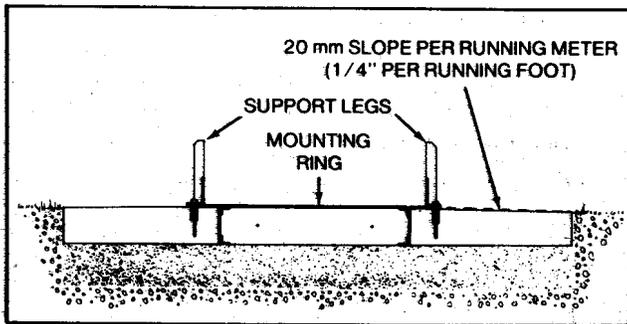

Fig. 18f
- (6) Place the concrete reinforcing rods or wire mesh in the slab area.
- (7) Pour and finish the slab.
- (8) Wipe the excess concrete from the top surface of the mounting ring. (See Fig. 18f.)